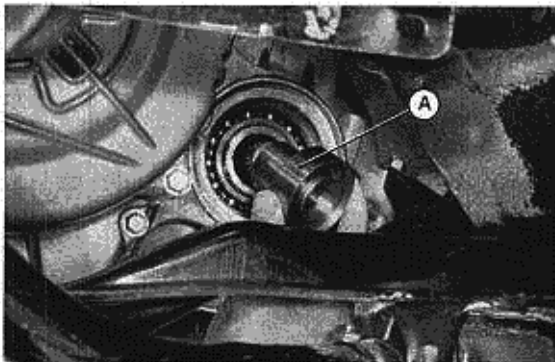

Fig. 7-6
8. The oil seal has grooves (refer to the Fig. 7-6) to return the oil to the differential gears and to prevent leakage. For this reason, the seal has to be installed correctly. The arrow marks and the "R" and "L" marks on the side of the oil seal, face the direction of rotation and the position of installation, respectively: "R" for right side, "L" for left side.